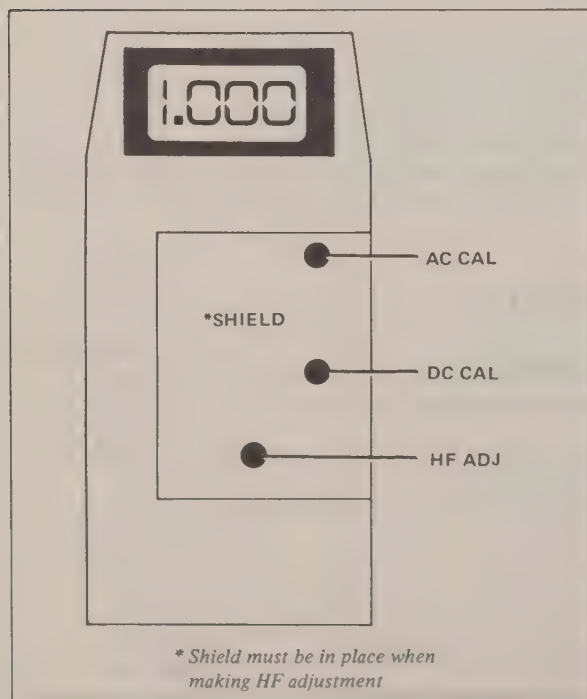

Figure 4-1. Calibration Adjustment Locations
- All adjustments necessary to complete the calibration procedure are now accessible (see Figure 4-1).